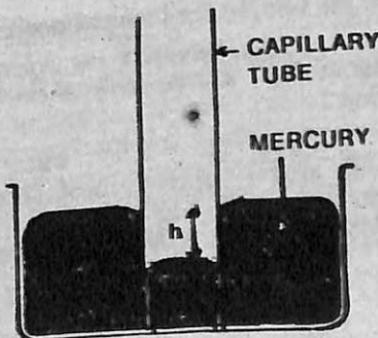

Fig. 28.9.
**Ans.** When the tendency of the meniscus to contract downwards is counterbalanced by the hydrostatic pressure exerted by the mercury column due to difference 'h' (Fig. 28.9) between the levels of mercury in the outside vessel and inside the capillary tube.